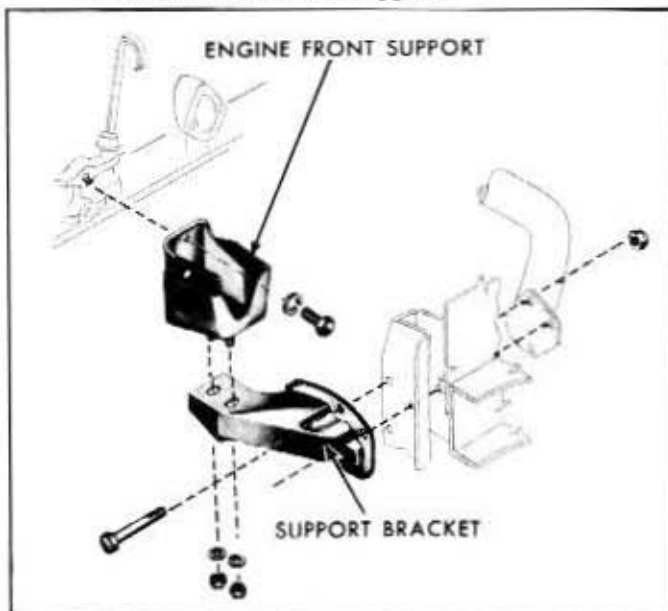

Fig. 6A-11—Engine Front Support—(60C-5611)
- a. Remove the engine support to underbody retaining nuts. See figure 6A-11. The nuts must be removed from both supports so that the engine can be raised.